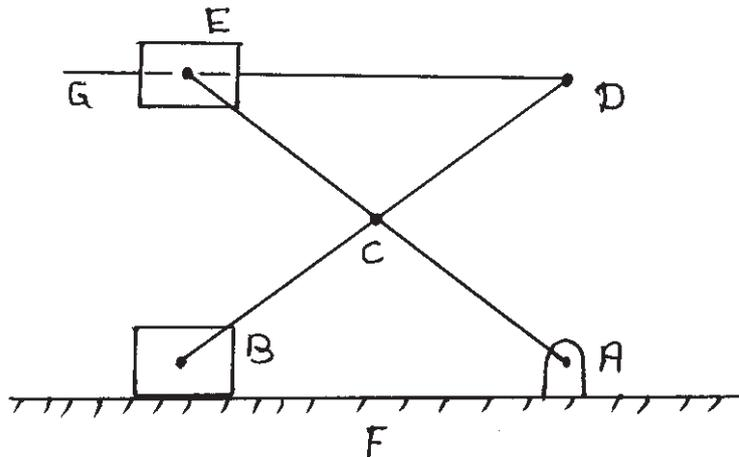

Fig. 1.
- c) For the mechanism shown in fig.1, find,